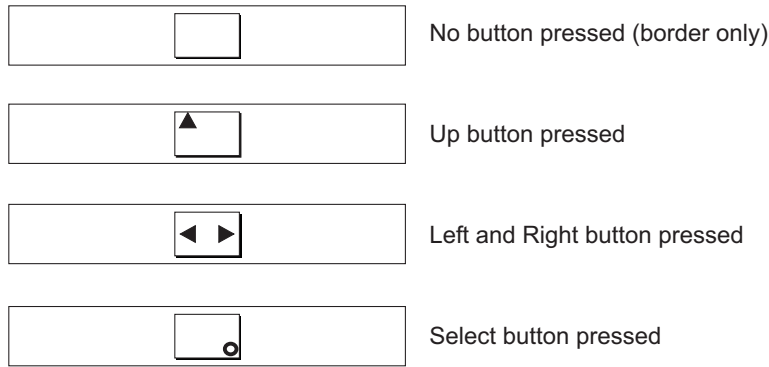

Figure 44. Front panel display when push buttons are pressed
3. Press the up, down, left, and right buttons to verify that they are working. Figure 44 on page 60 shows four examples of what the front panel should display when you press the buttons. When you have finished testing the buttons, press and hold the select button for five seconds in order to exit the test.